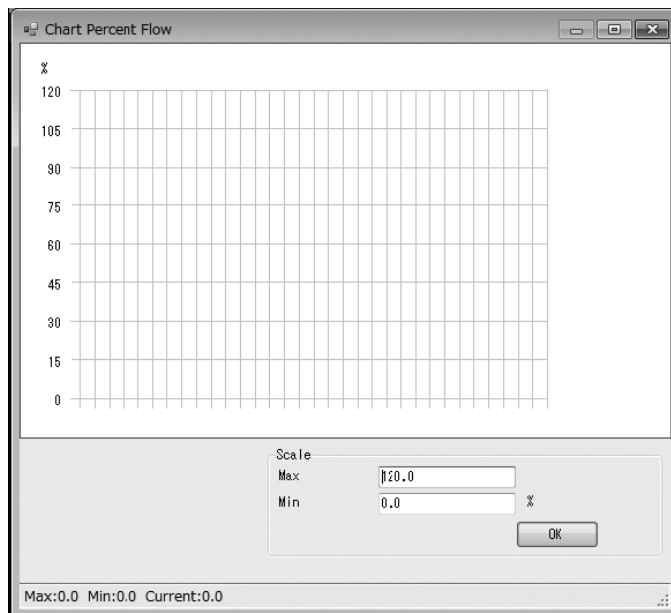

Fig. 3-22
- (3) Click the  button on the tool bar or "Chart and Recording" - "Chart" - "Percent Flow" from the menu, then the window shown in Fig. 3-22 will be displayed, enabling chart display of percent flow. When changing the scale of the vertical axis, enter the preferred values to "Max" and "Min" in "Scale", then click "OK" button.